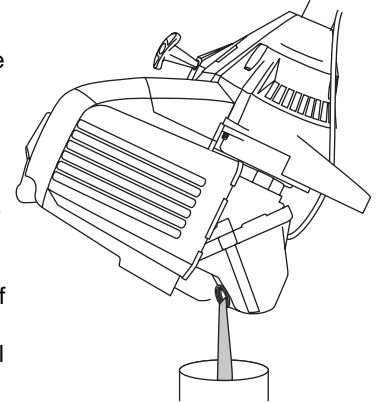

Fig. 25
- Pour the oil out of the oil fill hole and into a container by tipping the unit to a vertical position (Fig. 25). Allow ample time for complete drainage.